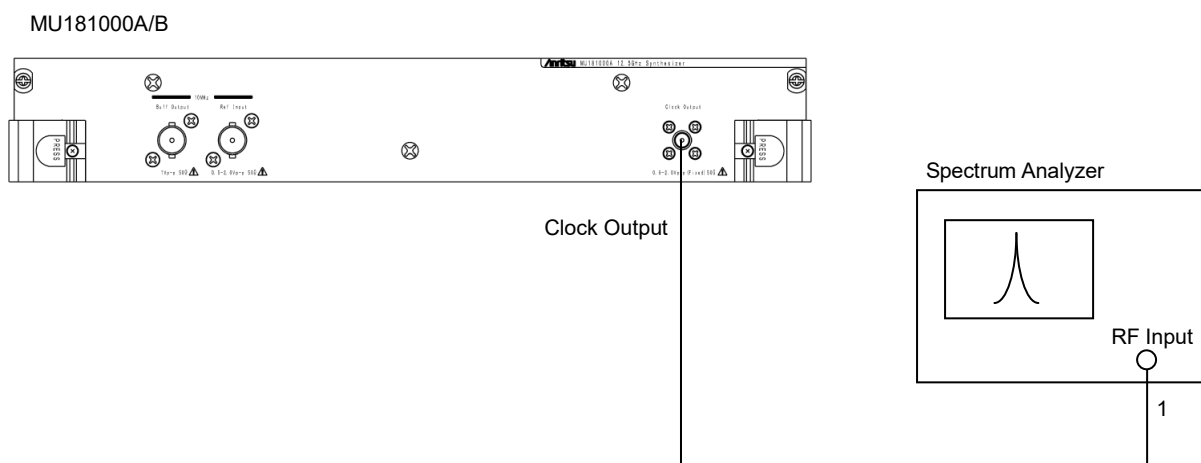

**Figure 6.3.1-2 Example of waveform measured by sampling oscilloscope**
4. Use the averaging function of the sampling oscilloscope to measure the waveform, and then check that the level of the measured waveform falls within the range shown in Figure 6.3.1-2.
5. Change the Center Frequency value in the MU181000A/B operation window as shown below, and perform measurement in the same way. Check that the waveform level falls within the range shown in Figure 6.3.1-2.